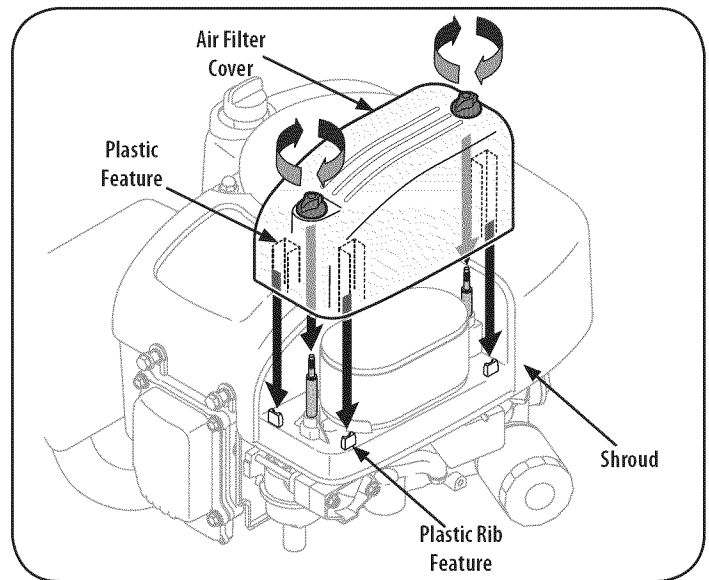

Figure 20
6. Attach the air filter cover, making sure to align plastic rib features on the shroud to the plastic features on the air filter cover. See Figure 20. Turn thumb screws clockwise until snug. Check for any misalignment.